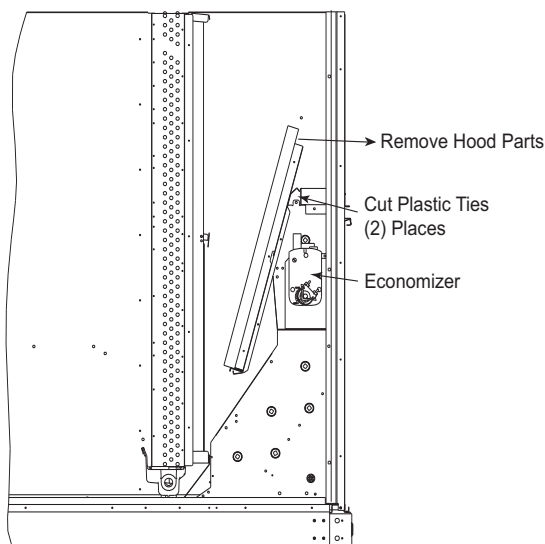

Fig. 16 — Economizer Hood Package Location (Size 180)
3. Locate and cut the (2) plastic tie-wraps being careful (see Fig. 16). Be careful to not damage any wiring or cut tie-wraps securing any wiring.
3. Locate the (2) screws holding the metal tray to the basepan and remove. In order to remove the screws, it may be necessary to remove the panel underneath the two-position damper. Remove the two screws. Locate and cut the (2) plastic tie-wraps securing the assembly to the damper. (See Fig. 16.) Be careful to not damage any wiring or cut tie-wraps securing any wiring.